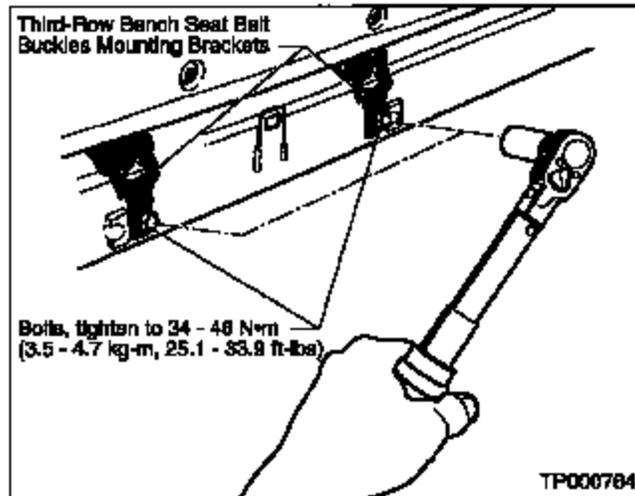

Figure 12
3. Install the new seat belt buckle(s) and tighten the mounting bolt(s) to 34 – 46 Nm (3.5 – 4.7 Kg-m, 25.1 – 33.9 ft-lbs). See Figure 12.